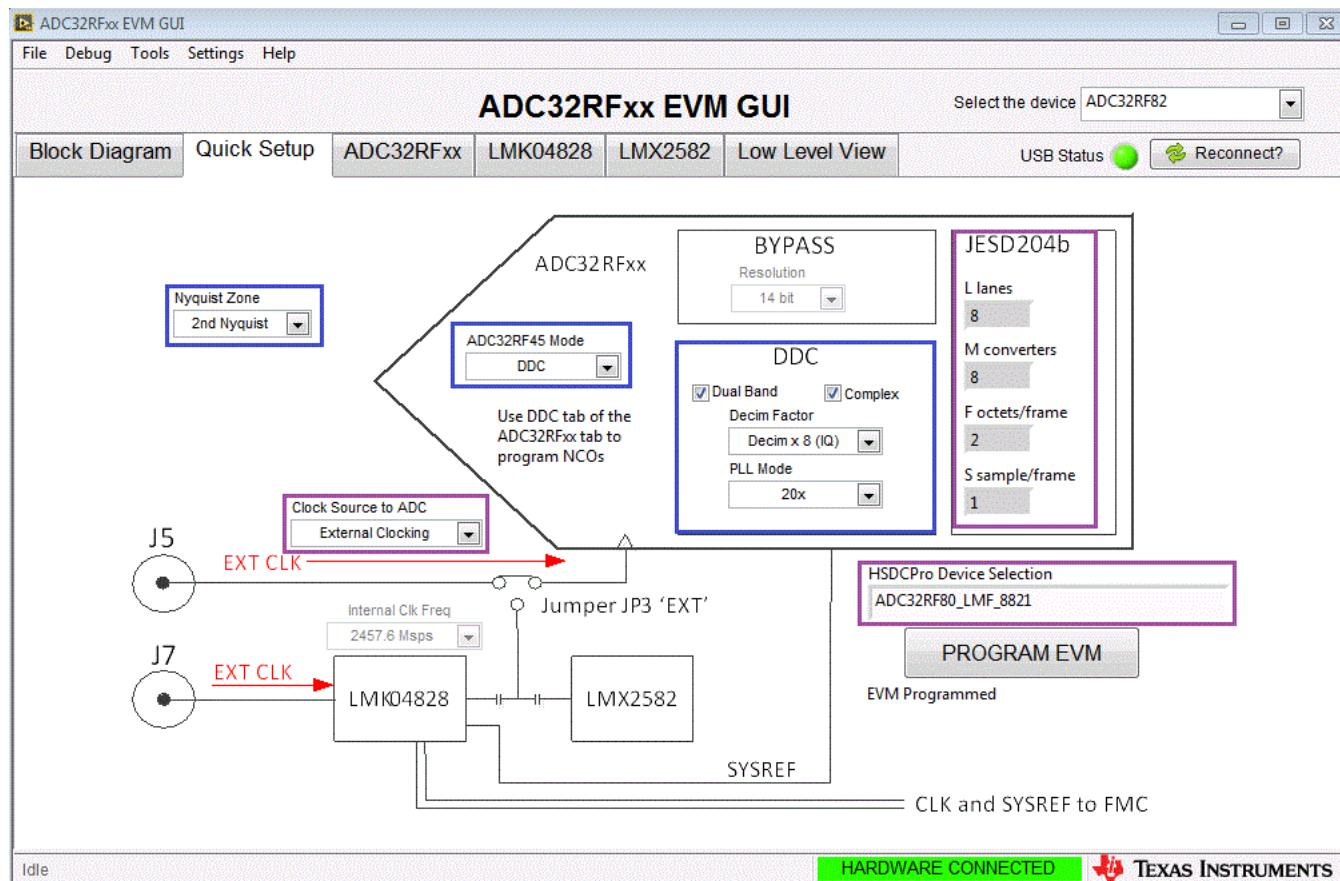
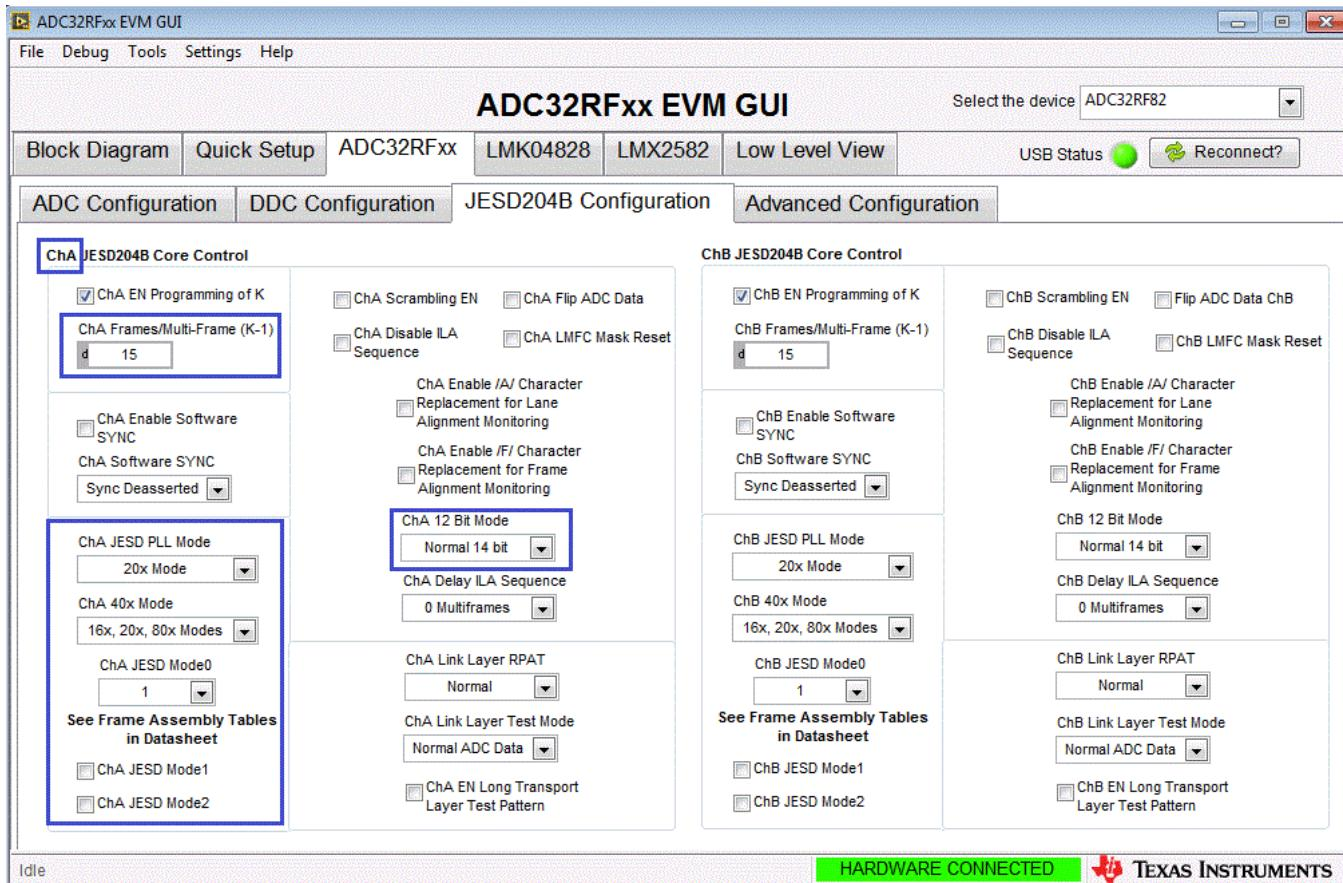

Figure 9. ADC32RFxx-EVM Quick Setup View DDC Mode
Figure 10. ADC32RFxx-EVM GUI JESD204B Configuration Tab DDC Mode
10. After pressing the **PROGRAM EVM** button, the device will be configured as shown in Figure 9 and Figure 10.